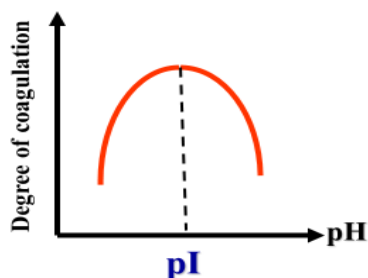

Figure 4 – Degree of coagulation of protein in solutions with the different pH values
2. By measuring the *degree of protein's coagulation* in solutions with different acidity (Fig. 4):